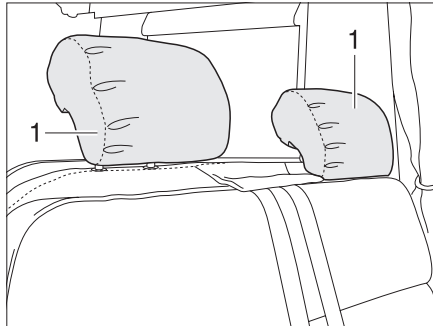

Fig. 12 Headrest for bench seat (Variant 1)
- ▶ Push the headrests (Fig. 12,1) upwards or downwards by hand.